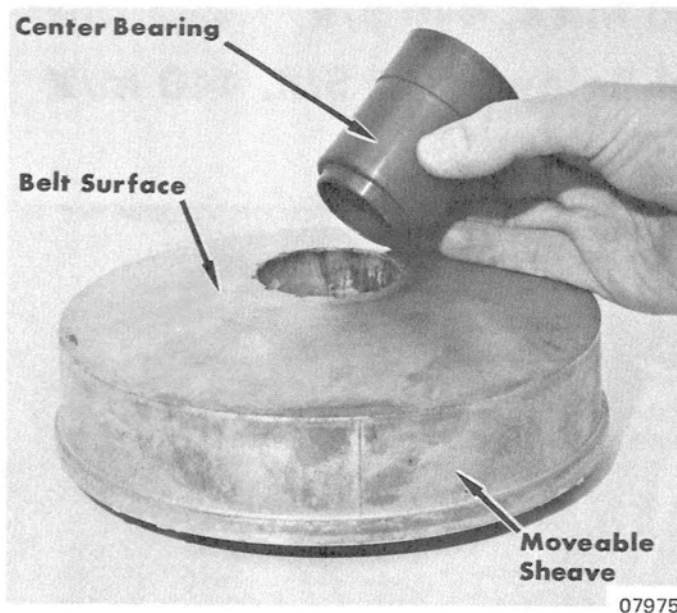
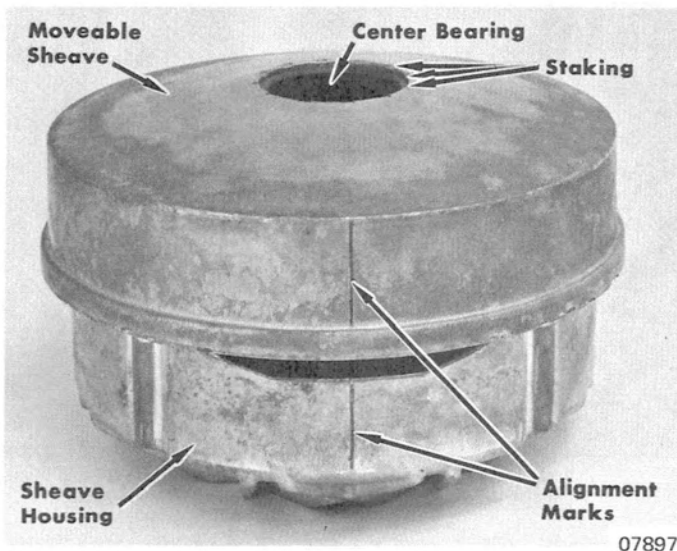

Figure 5. Installing Plastic Center Bearing
Figure 6. Drive Sheave Reassembly
- f. If removed, install new center bearing as shown in Figure 5. Stake moveable sheave on belt surface side to secure bearing. (Figure 6)
3. Match alignment marks (straight line) on sheave housing and moveable face. (Figure 6) Install moveable face onto sheave housing.